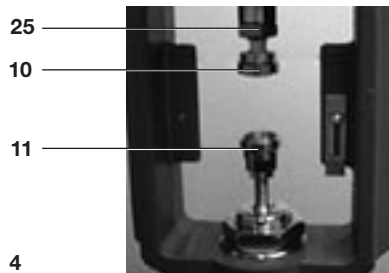

Fig. 4
- Turn off the air supply and allow the actuator to retract fully (Figure 4).